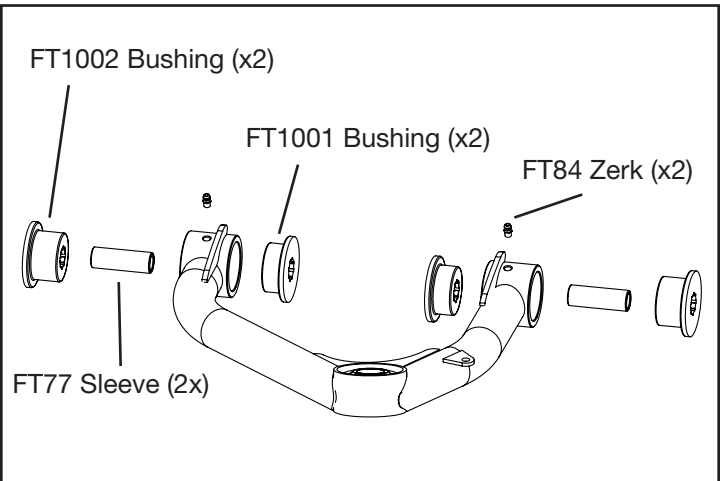

FIGURE 4
6. Install all these components in the control arm barrels. **SEE FIGURE 4**